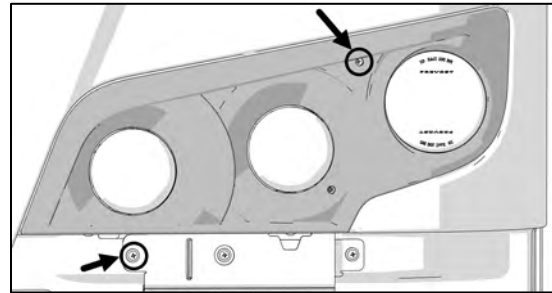

FIGURE 73: HEADLAMPS ASSEMBLY FIXING SCREWS
2. Unfasten the two screws (Figure 73) fixing the headlamps assembly then tilt the headlamps assembly down.
1. Unfasten the two screws (Figure 73) fixing the headlamps assembly and then tilt the headlamps assembly down.
1. Remove the two screws (Figure 73) fixing the headlamps assembly and then **tilt** the headlamps assembly down.